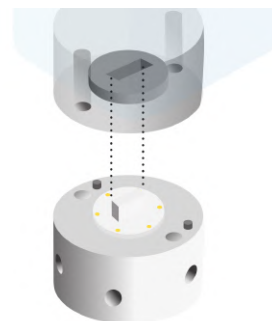

FIGURE 4.16 – Align the valve with the motor shaft
4. Align the new valve with the motor shaft (see Figure 4.16).